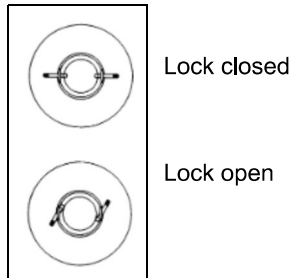

Fig. 7
6. Close the lock on the brush, see Figure 7.